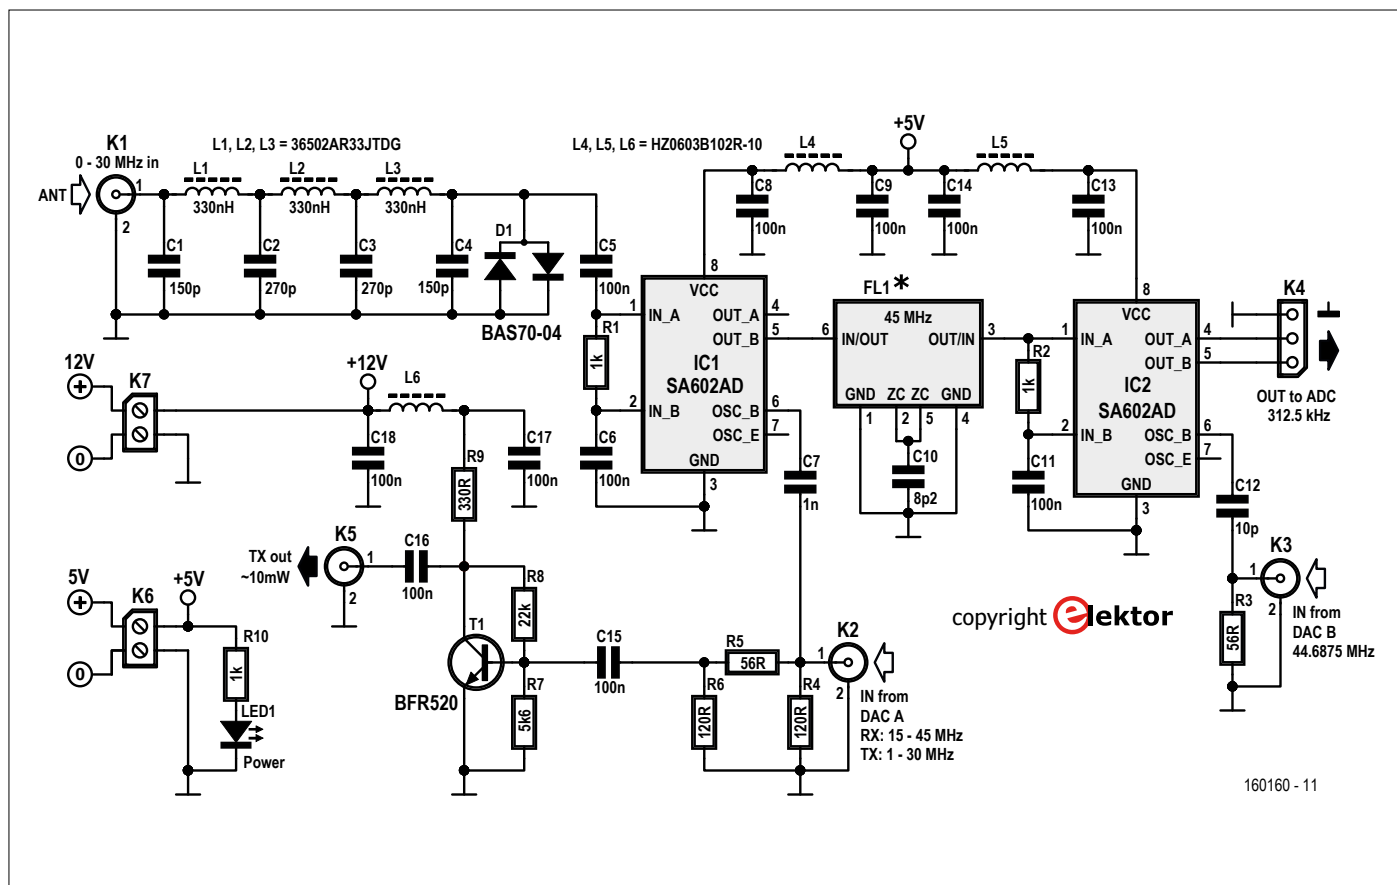

Figure 3. The circuit for a radio board suitable for receiving and transmitting at frequencies up to 30 MHz.
ter. This intermediate frequency (IF) signal is amplified before entering a second mixer where it is converted down to a second IF signal centered at 312.5 kHz (see Part 1) with the help of a second LO signal provided by DAC B. The second IF signal is digitized by the ADC and fed into the FPGA where it is processed and ultimately demodulated to audio. Such a radio board, together with the FPGA DSP board, works very well for the reception of signals from virtually zero up to around 30 MHz. When connected to a large antenna that picks up both weak and strong signals the receiver does not easily saturate and will not produce distorted audio. It can therefore be used for serious work and reception of sporadic and weak signals. The schematic of the radio board is shown in **Figure 3**.